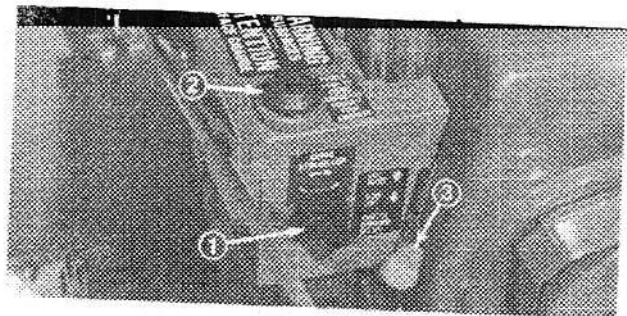

Figure 17
**Throttle** (Fig. 17) – Moving the throttle upward increases engine speed. Use only enough engine speed to throw snow to the place desired.
**Choke** (Fig. 17) — Choke for engine is on back side of heater box. Rotate choke clockwise to FULL choke position to start a cold engine. As engine warms up, move choke gradually to OFF.
**Primer** (Fig. 17) — Press primer to pump small amount of gasoline into engine for improved cold weather starting.